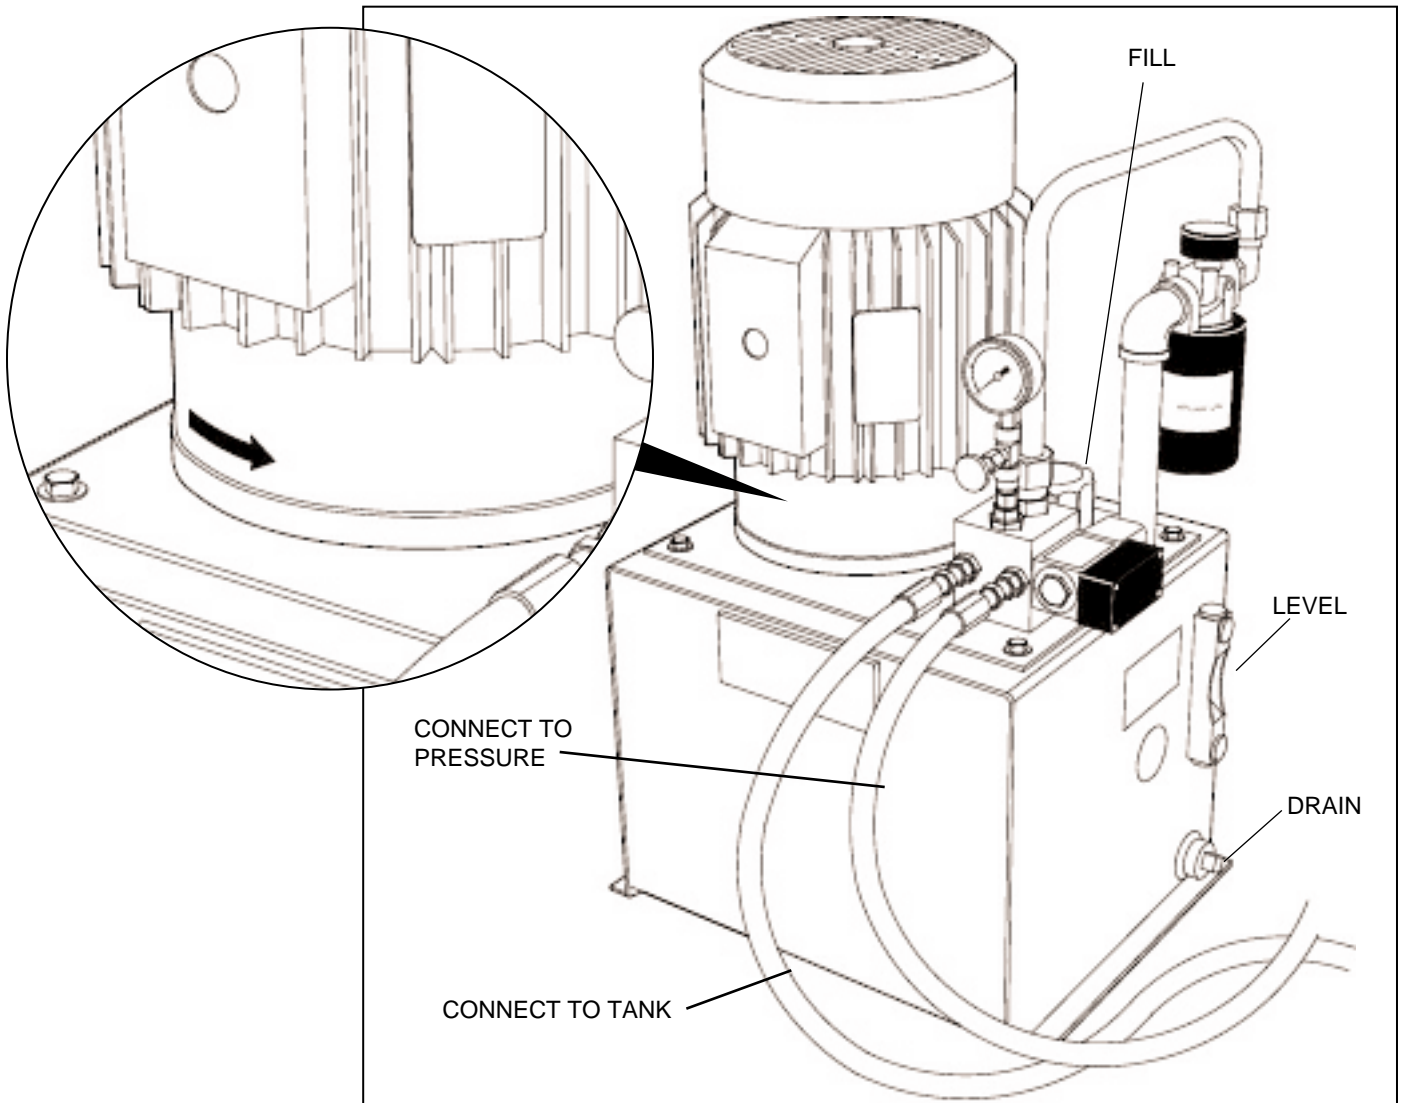

Figure 1.12 THE HYDRAULIC POWER UNIT.
2. Check pump rotation, as shown in figure 1.12, by pushing starter in panel.